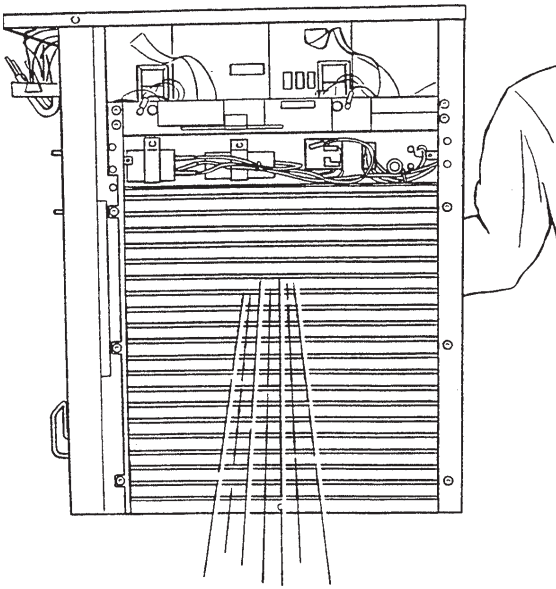

Figure 33. Condenser Inspection
3. Visually inspect the condenser for dirt by shining a light through the coil from the back (inside) of the condenser (Figure 33).